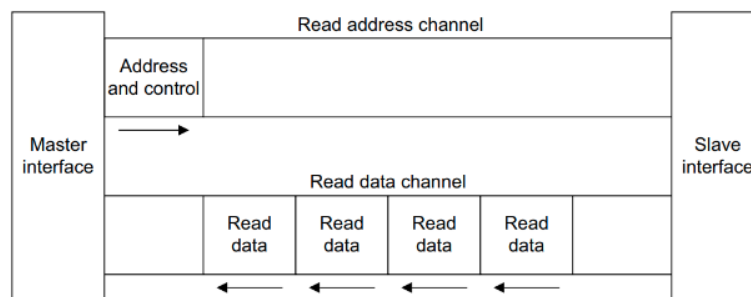

Figure 6. Channel architecture of reads
Figure 6 shows how a read transaction uses the read address and read data channels. First the address and control bits are sent from the master device, then the slave device responds with the data on the read data channel.
- A read data channel to transfer data from the slave to the master (Figure 6).